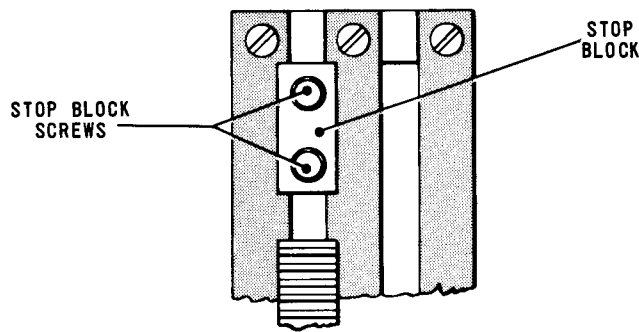

Fig. 4.69 TYPEHEAD LIFT RACK AND STOP BLOCK
- 85.3 If necessary, refine Adjustment Nos.59 and 64. If the bottom layer is high with respect to the reference level, slacken the screws securing the stop block, Fig.4.69, and move the block towards the typehead lift rack until the correct height is obtained. Tighten the stop block screws.